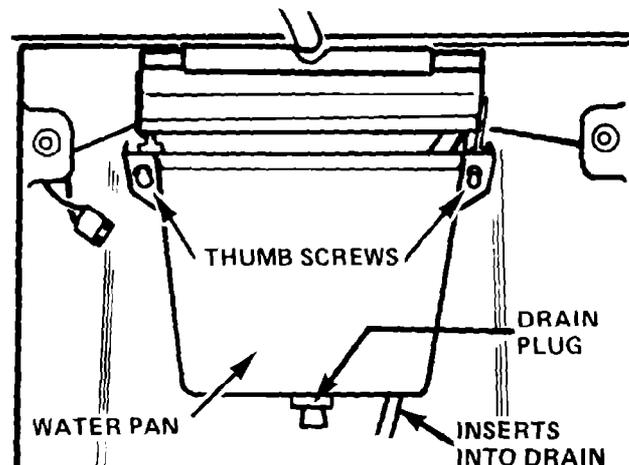

FIGURE 5
4. Drain the water pan, Figure 5, by removing the rubber plug. Replace the plug.
12. Remove water pan, (two thumb screws) Figure 5.